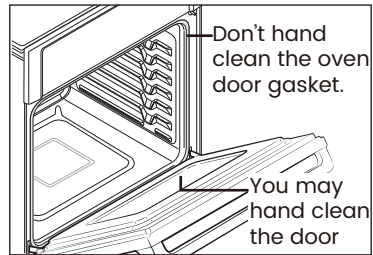

Fig.18
- Do not clean the gasket. The fiberglass material of the oven door gasket cannot withstand abrasion. It is essential for the gasket to remain intact. If you notice it becoming worn or frayed, have it replaced. (Fig.18)